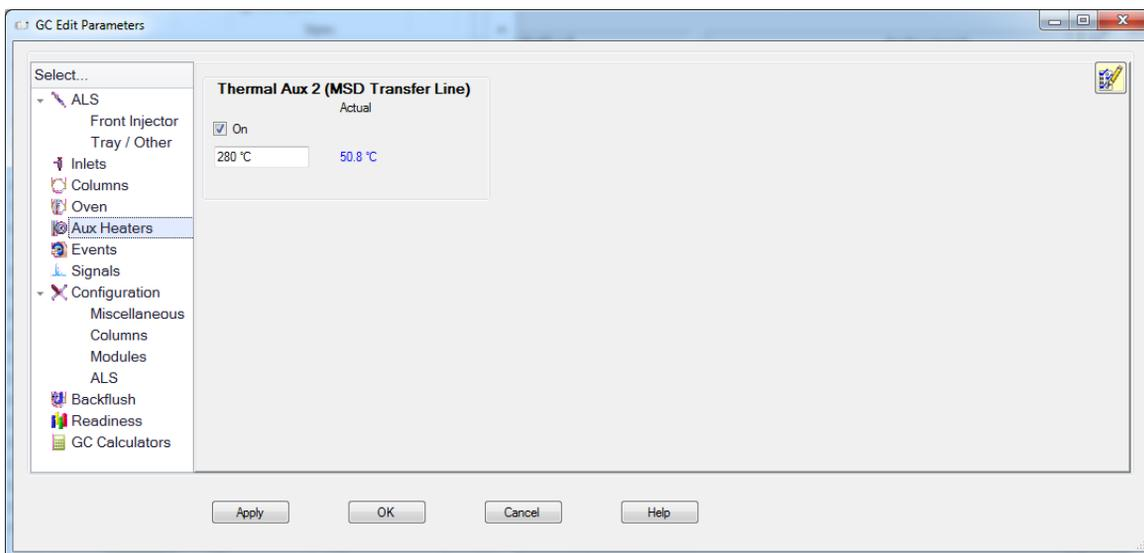

Figure 30 GC edit parameters window
- 2 Click the **Aux Heaters** icon to edit the interface temperature. (See Figure 30.)